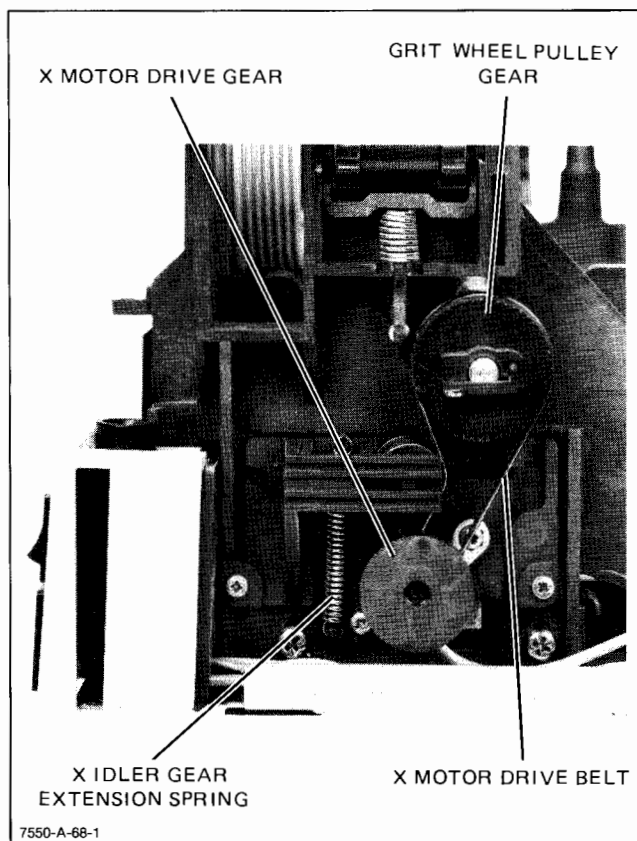

Figure 6-27. X-Motor Drive Belt Removal
- Release the X-idler gear extension spring from the standoff on the X,Y carriage assembly. See Figure 6-27.